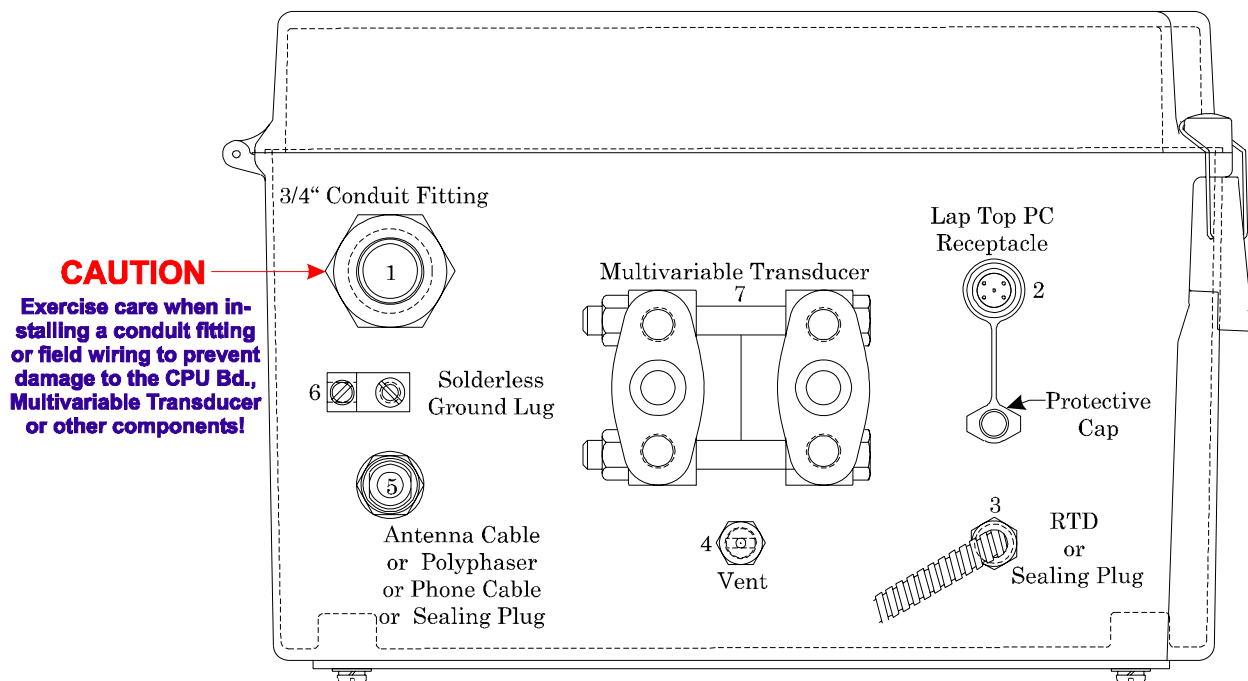

Figure 3A - Bottom View of TeleFlow Plus
7. Route field wiring cable(s) associated with the I/O Expansion Board into the TeleFlow Plus, TeleRTU Plus or TeleRecorder through a $\frac{3}{4}$ " conduit fitting (user installed) (see Figure 3A, 3B or 3C) on the bottom of the enclosure. Configure the LPI/OEB Jumpers (see Table 2 and Section 2.2).